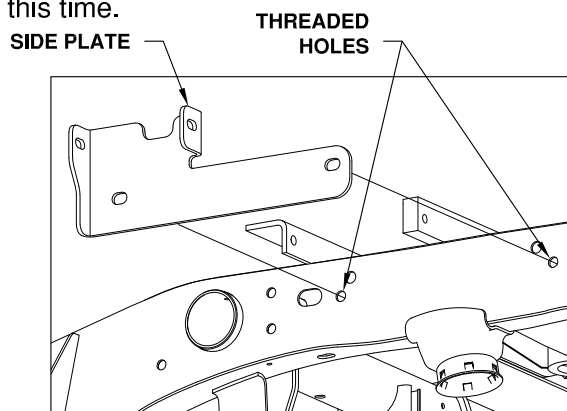
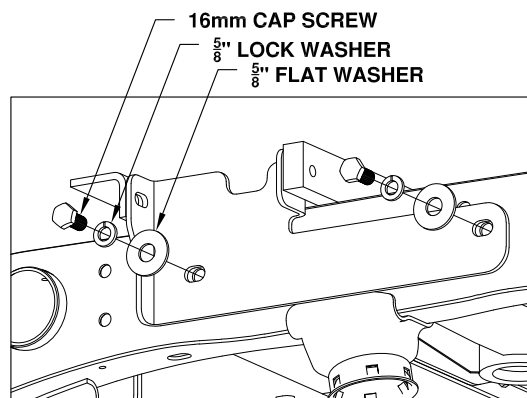
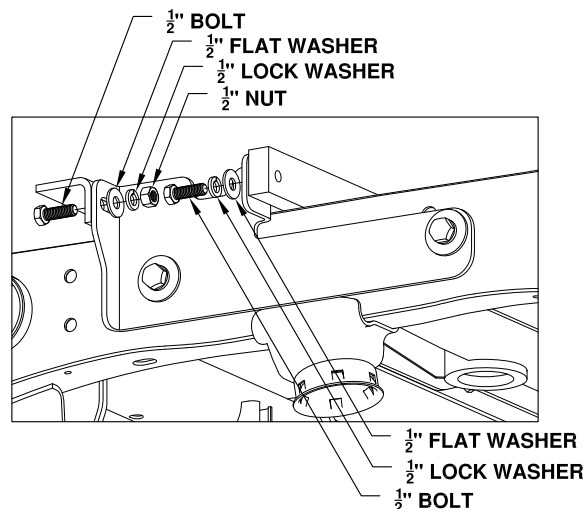

Figure C1: View from outside of Driver Side Frame
Figure C2: View from outside of Driver Side Frame
Figure C3: View from outside of Driver Side Frame
1. **Install the side plates.** Place each side plate against the frame so that the flanges are between the front and rear cross member, see Figure C1. Attach each side plate to the frame with two 16mm cap screws, 5/8" lock washers and 5/8" flat washers. The 16mm cap screws will screw into pre-existing threaded holes in the frame, see Figure C2. Attach the side plate to the front and rear cross members with 1/2" Bolts, flat washers, lock washers and nuts, as shown in Figure C3. Do not fully tighten the side plate hardware at this time.